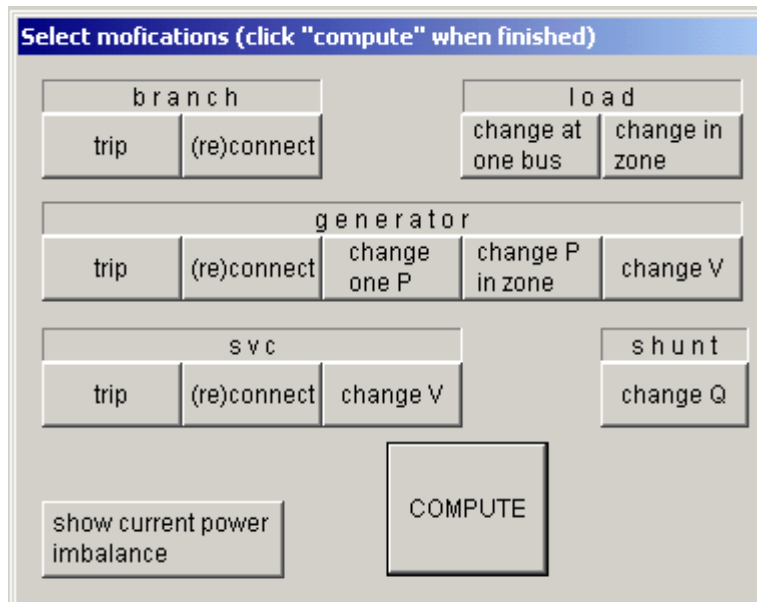

Figure 7. Modification dialog box
- **data and re-run** : allows to modify loads or generations, trip or reconnect equipments, etc. The dialog box shown in Fig. 7 pops up.